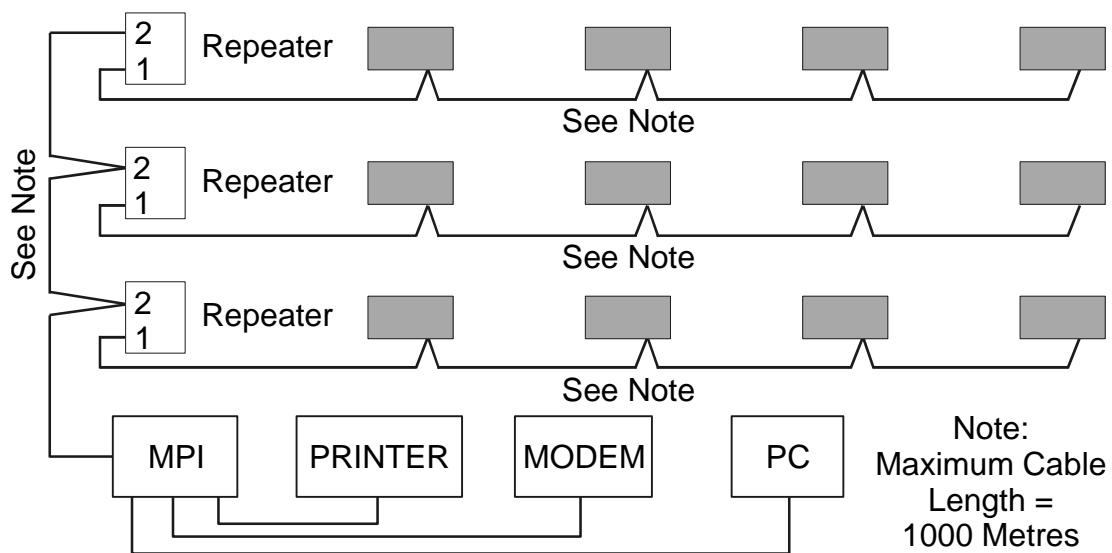

Figure A-4. Multi-Network Arrangement.
**A-4.1.3. Multi-Network Arrangement.** Figure A-4 shows a multi-network arrangement consisting, effectively, of four separate networks. Each is wired in a bus topology and each could be up to 1000 metres long. The networks are linked by the electronics in the Repeater Modules. The GENII MPI Modem and Printer Interface does not need to be an isolated version but it should be noted that the Comms cable connecting Ports 2 of the Repeater Module will be earthed through the MPI via the PC and the printer. The correct port of the Repeater Modules must be used to maintain the integrity of isolation between sections.